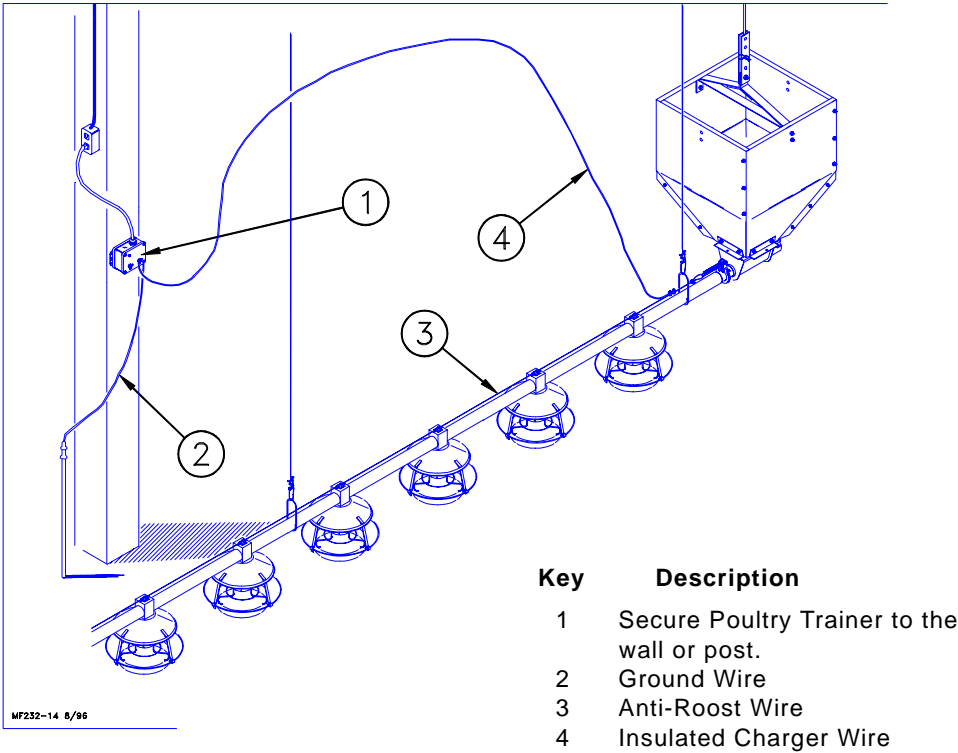

Figure 33. Poultry Trainer Installation
11. Install the Poultry Trainer or Line Charger, as shown in Figure 33 or 34.
The Poultry Trainer is used to power all Anti-Roost lines in a house. See Figure 33.